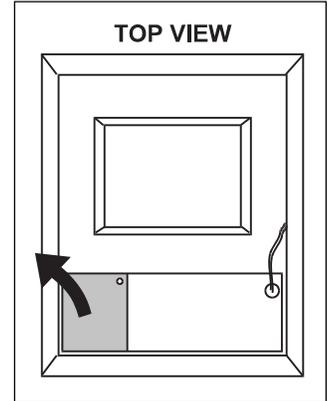

Figure 33. Removal of Vestibule Cover
4. Remove the two screws securing the left vestibule cover (see Fig. 33). The cover can be discarded.